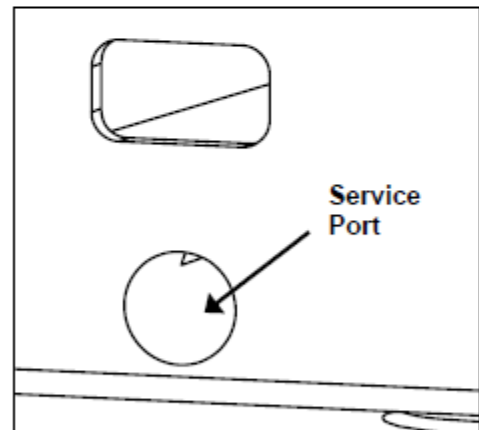

Figure 10
- With the TPA in the "pre-lock" position, insert the tip of the Service Tool into the service port for the terminal in be removed/replaced. Use care to be sure the service tool stays in the service port track. (Fig 10).